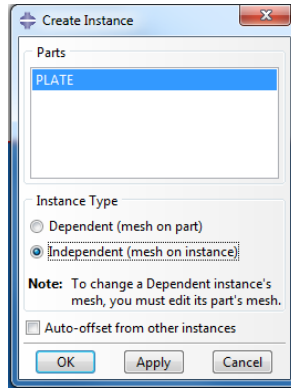

Figure 15. Create Instance Dialog Box
- Double click on the **Instances** icon in the expanded model tree. This feature will allow multiple parts to be brought into the assembly. The **Create Instance** dialog box will appear (Figure 15). Under the **Instance Type** Option make sure to click **Independent (mesh on instance)**.